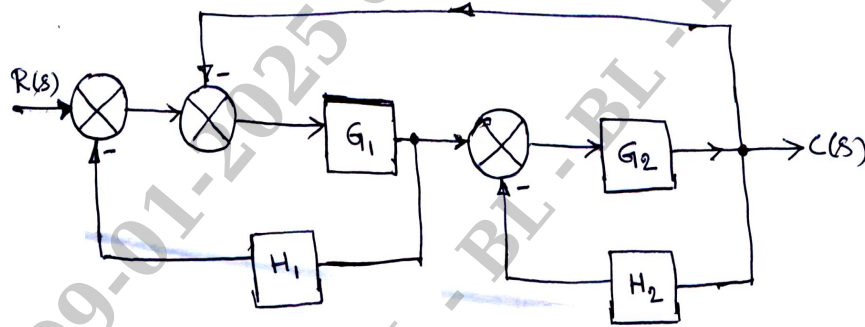

Fig. Q5 (b)
- b. Reduce the block diagram and obtain its transfer function $\frac{C(s)}{R(s)}$. Block diagram shown in Fig. Q5 (b).